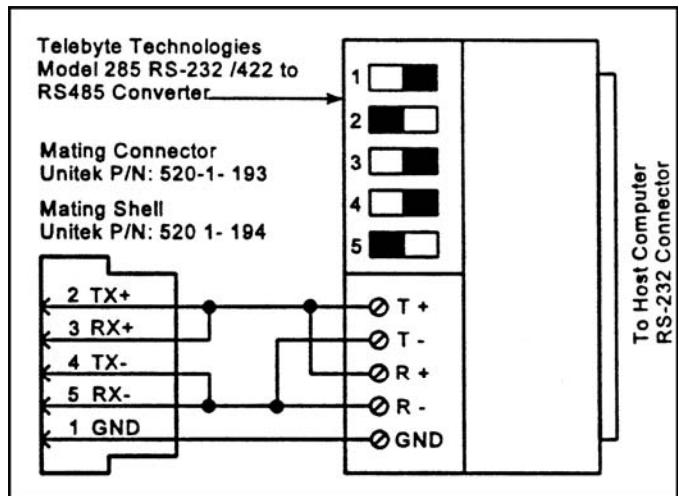

Figure 9-1. RS-485 Serial Port Connections
RS485 SERIAL PORT Connections (Figure 9-1)
- 2 Telebyte Technology, Inc., located at 270 Pulaski Road, Greenlawn, NY 11740, Tel: 800-835-3298, makes the Model 285 Converter Box which can be connected between the HF2 Weld Control RS485 SERIAL PORT and into the COM1 or COM2 port on any IBM or compatible personal computer. Figure 9-1 shows the Model 285 connection to the HF2 Weld Control RS485 SERIAL PORT. Set the DIP switches on the Model 285 as shown in Figure 9-1. The Black Square indicates the ON position.